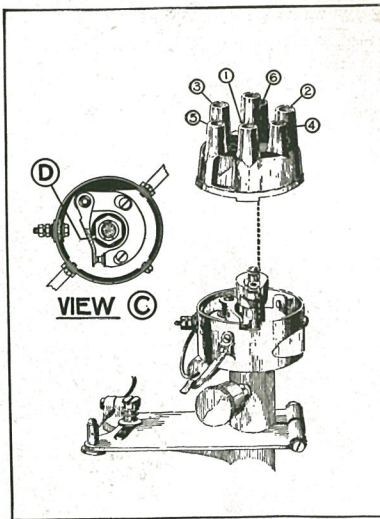
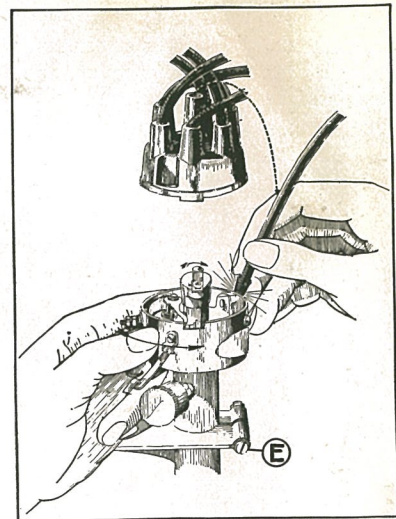

Fig. 89. Rotor Setting
Fig. 90. Checking Timing
3. Remove distributor cap and see that rotor is in line with slot in upper edge of housing, as shown in Fig. 89. This slot should then point toward right side of engine. The high tension wire attached to the terminal directly above the slot should then connect
4. Loosen the timing clamp screw (E) and rotate housing, as shown in Fig. 90, in a counter-clockwise direction until the breaker points just barely open. View (C) in Fig. 89 shows the position of the rubbing block (D) on the
cam when spark occurs. This can be determined by turning on the ignition and holding the wire which connects to the center terminal on distributor cap to form a gap with the metal parts of the housing, as shown in Fig. 90. Tighten adjusting clamp securely, making sure that distributor housing is not moved during this operation.